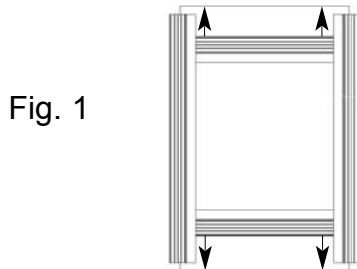

Fig. 1
1. Start jamb over wall at head and swing bottom into place. (Fig. 1)